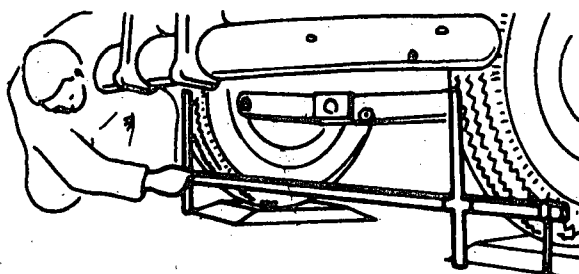

Fig. 6
- a) Position the rod and measure the distance between the front part of the tyres. (fig. 6).